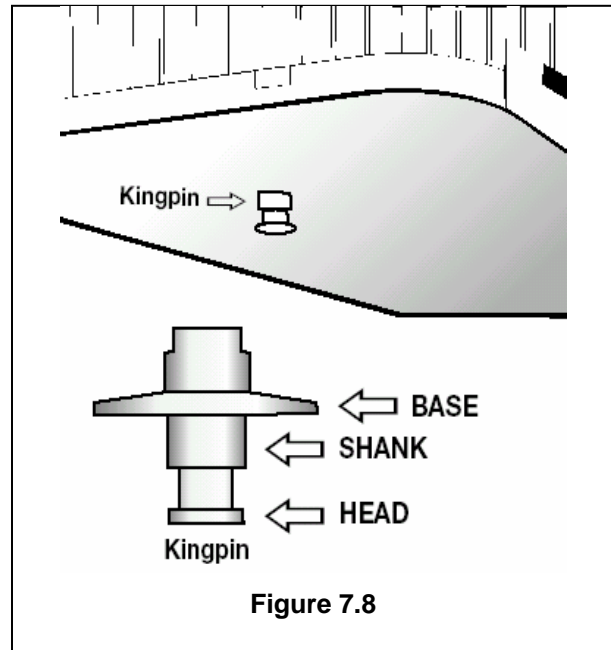

Figure 7.8
- Locking jaws around the shank, not the head of kingpin. See Figure 7.8.